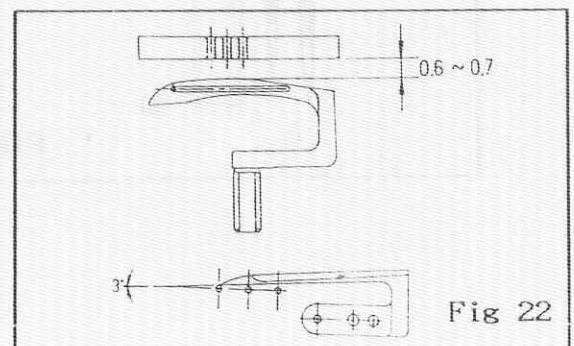

Fig 22
2. Correct height and angle of Looper (Fig.22)